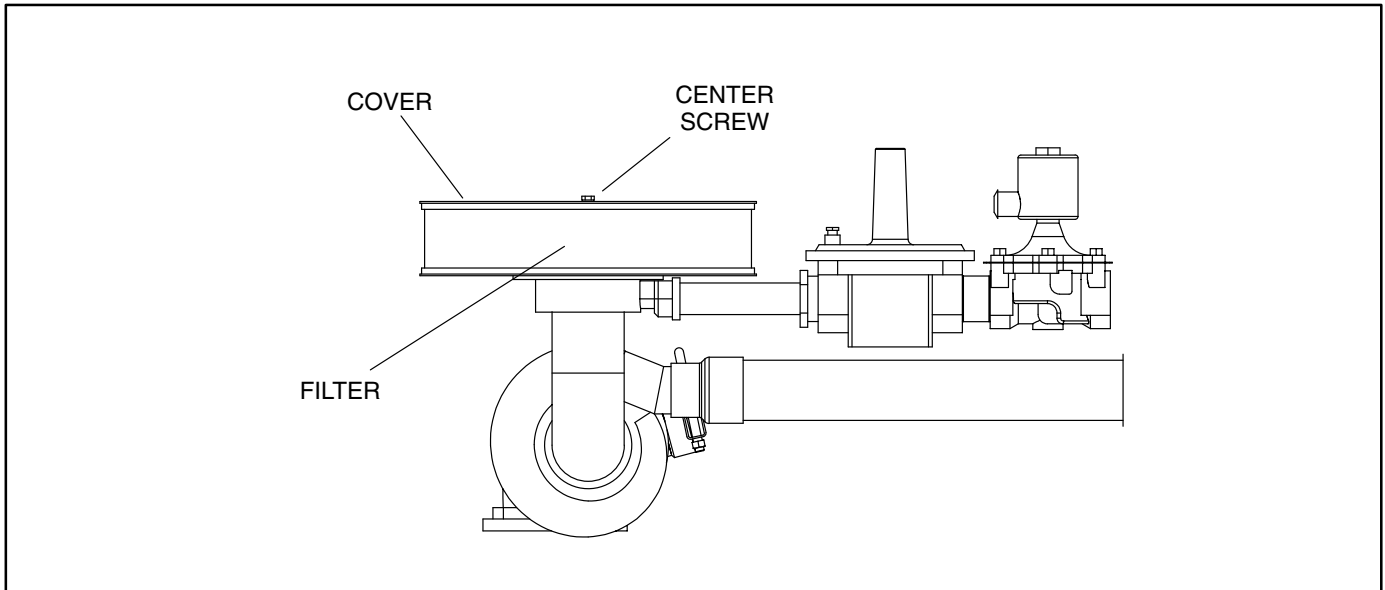

FIGURE 7-5. AIR CLEANER
1. Remove the center screw of filter cover (Figure 7-5).